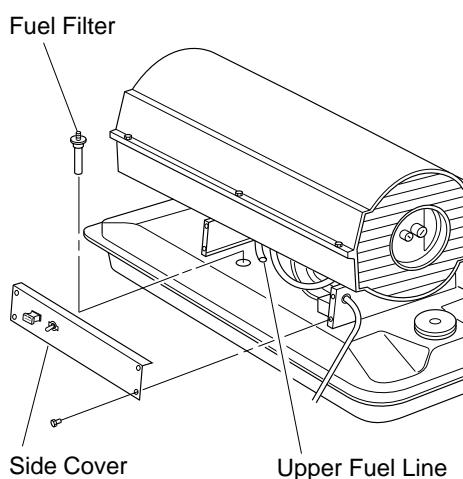

Figure 9 - Fuel Filter Removal
1. Remove side cover screws using 5/16" nut-driver (see Figure 9).
7. Replace side cover (see Figure 9).
3. Remove side cover screws with a 5/16" nut driver. Remove side cover (see Figure 9).
12. Replace side cover (see Figure 9).
2. Remove side cover screws using 5/16" nut driver (see Figure 9, page 9).